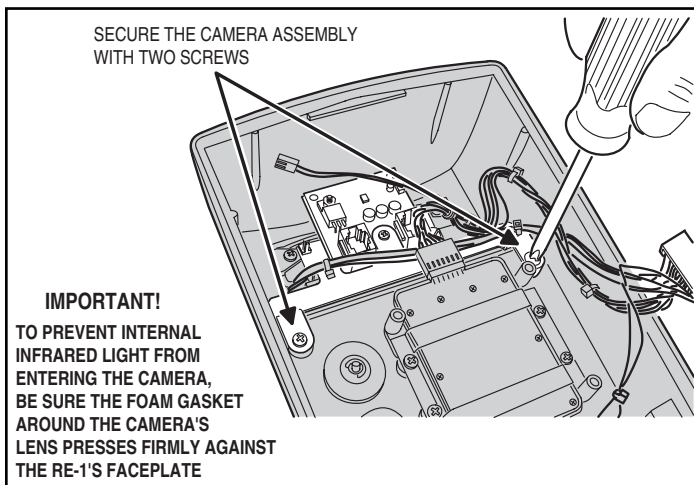

Figure 18. Mounting the Camera in the RE-1
2. Mount the camera assembly into the RE-1 case. Secure the camera with the two screws provided (see Figure 18).